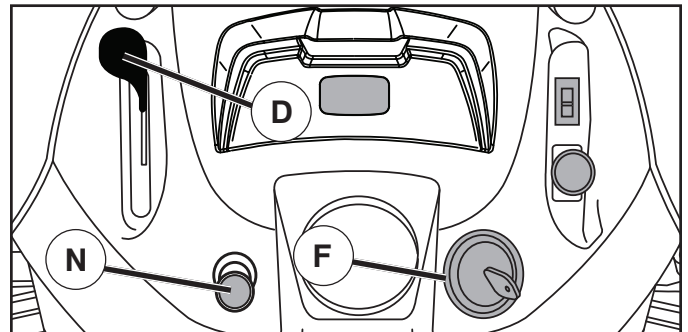

Fig. 7
- Move throttle control (D) between half and full speed (fast) position.
- Turn ignition key (F) to "STOP" position and remove key. Always remove key when leaving tractor to prevent unauthorized use.
### TO USE THROTTLE CONTROL (D) (See Fig. 7)
### TO USE CHOKE CONTROL (N) (See Fig. 7)
## TO MOVE FORWARD AND BACKWARD (See Fig. 7)